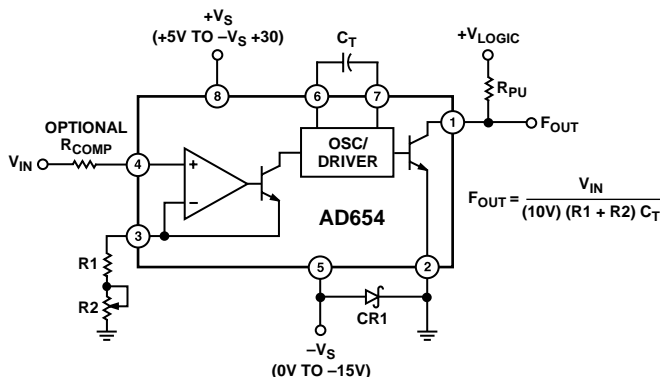
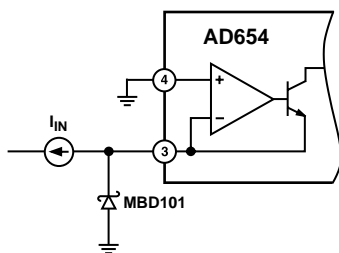

Figure 1. Standard V-F Connection for Positive Input Voltages
Figure 5. Input Protection
The AD654's block diagram appears in Figure 1. A versatile operational amplifier serves as the input stage; its purpose is to convert and scale the input voltage signal to a drive current in the NPN follower. Optimum performance is achieved when, at the full-scale input voltage, a 1 mA drive current is delivered to the current-to-frequency converter (an astable multivibrator). The drive current provides both the bias levels and the charging current to the externally connected timing capacitor. This "adaptive" bias scheme allows the oscillator to provide low nonlinearity over the entire current input range of 100 nA to 2 mA. The square wave oscillator output goes to the output driver which provides a floating base drive to the NPN power transistor. This floating drive allows the logic interface to be referenced to a level other than $-V_S$.
In the connection scheme of Figure 1, the input amplifier presents a very high (250 M Ω) impedance to the input voltage, which is converted into the proper drive current by the scaling resistors at Pin 3. Resistors R1 and R2 are selected to provide a 1 mA full-scale current with enough trim range to accommodate the AD654's 10% FS error and the components' tolerances. Full-scale currents other than 1 mA can be chosen, but linearity will be reduced; 2 mA is the maximum allowable drive. The AD654's positive input voltage range spans from $-V_S$ (ground in sink supply operation) to four volts below the positive supply. Power supply rejection degrades as the input exceeds $(+V_S - 3.75 \text{ V})$ and at $(+V_S - 3.5 \text{ V})$ the output frequency goes to zero.
As indicated by the scaling relationship in Figure 1, a 0.01 μF timing capacitor will give a 10 kHz full-scale frequency, and 0.001 μF will give 100 kHz with a 1 mA drive current. Good V/F linearity requires the use of a capacitor with low dielectric absorption (DA), while the most stable operation over temperature calls for a component having a small tempco. Polystyrene, polypropylene, or Teflon* capacitors are preferred for tempco and dielectric absorption; other types will degrade linearity. The capacitor should be wired very close to the AD654. In Figure 1, Schottky diode CR1 (MBD101) prevents logic common from dropping more than 500 mV below $-V_S$. This diode is not required if $-V_S$ is equal to logic common.
The AD654 was designed to be used with a minimum of additional hardware. However, the successful application of a precision IC involves a good understanding of possible pitfalls and the use of suitable precautions. Thus $+V_{IN}$ and R_T pins should not be driven more than 300 mV below $-V_S$. Likewise, Logic Common should not drop more than 500 mV below $-V_S$. This would cause internal junctions to conduct, possibly damaging the IC. In addition to the diode shown in Figures 1 and 2 protecting Logic Common, a second Schottky diode (MBD101) can protect the AD654's inputs from "below $-V_S$ " inputs as shown in Figure 5. It is also desirable not to drive $+V_{IN}$ and R_T above $+V_S$. In operation, the converter will exhibit a zero output for inputs above $(+V_S - 3.5 V)$. Also, control currents above 2 mA will increase nonlinearity.